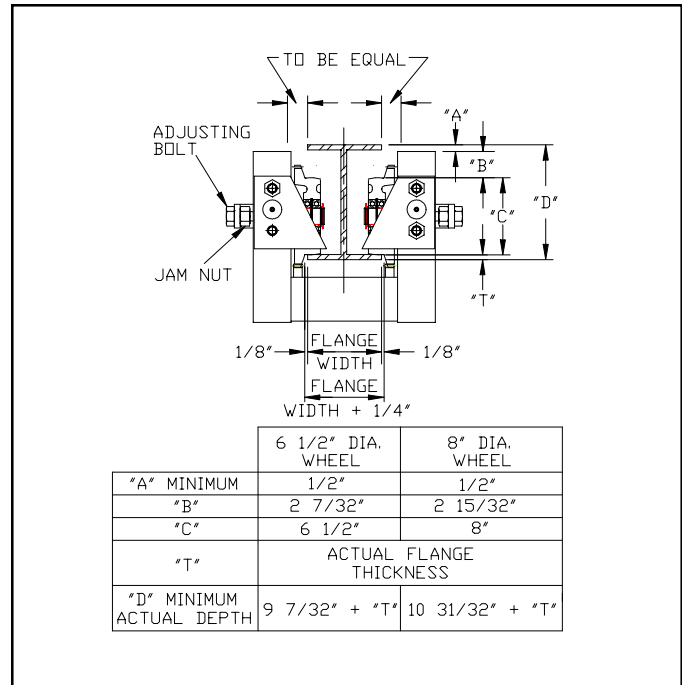

Figure 3.
1. Before assembling the girder to the end trucks, the trucks must be properly spaced. When ever possible, measure the widest flange width on the actual runway to be used. Use this flange width in Figure 3.
2. Loosen the jam nut and position the wheels by turning the adjusting bolt to give the dimensions in Figure 3. Once the wheel is in the desired location retighten the jam nut.